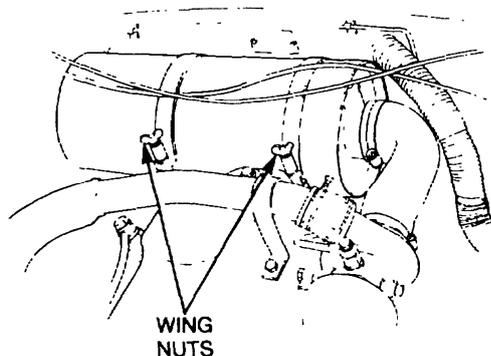

Figure 41 Air Cleaner Assembly Removal
- Remove the two wing nuts from the clamp bolts (Figure 41).